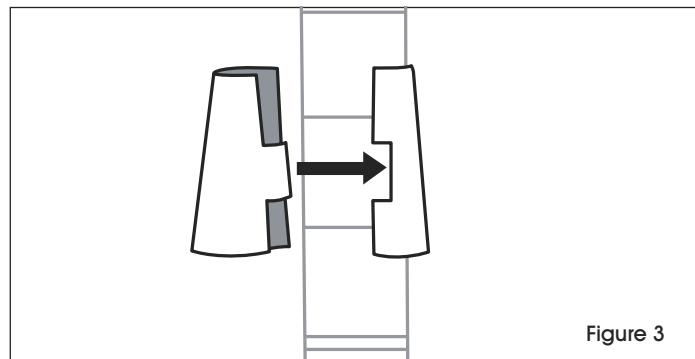

Figure 3
4. Start with the lowest shelf. Snap the interlocking pieces of a shelf support (wide end down) around the post at the lowest groove where shelf is to be located. Slide the support up or down until it snaps into the groove. Add a shelf support to the same place on the remaining posts. (See Figure 3)